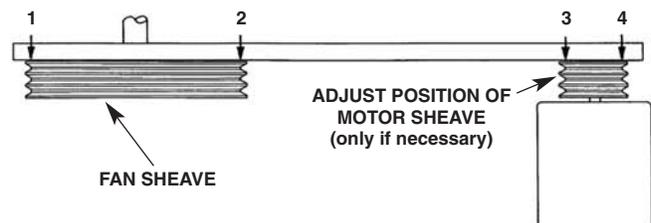

Figure 26 – Sheave alignment check
Air inlet louvers are shipped with an integral metal frame for ease of handling and maintenance. Install all louvers into place, ensuring that the drain holes are located on the **lower** frame, facing the **interior** of the basin. The louver retaining angles should then be installed and secured with plastic quick-release knobs. Finally, install plastic cap on wing-nut bolts, as shown in Figure 26, to prevent loss of the wing-nuts during maintenance.
9. As a final check, lay a straight edge from sheave to sheave. There should be four point contact. (See Figure 26.) Adjust the position of the motor sheave as necessary.